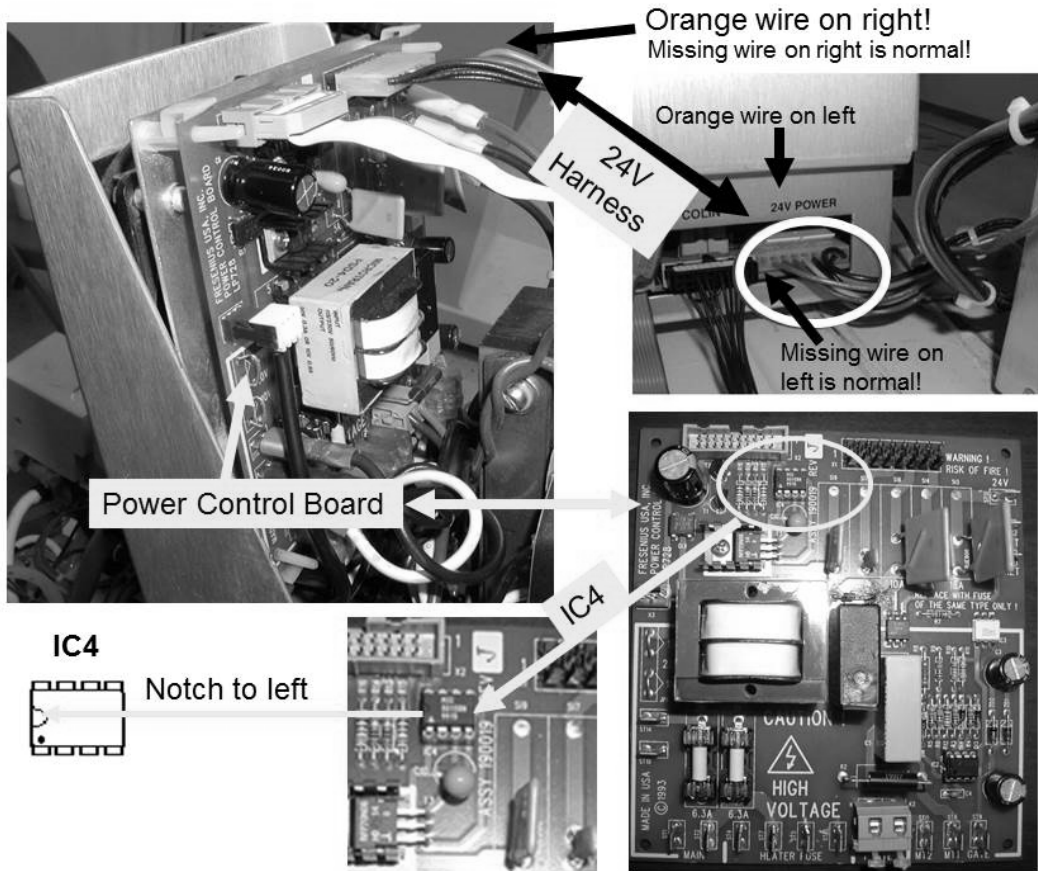

Figure 109 – Power Control Board / 24V Power Harness / IC4
* To LOCATE the 24V Harness refer to Figure 109 (page 618)